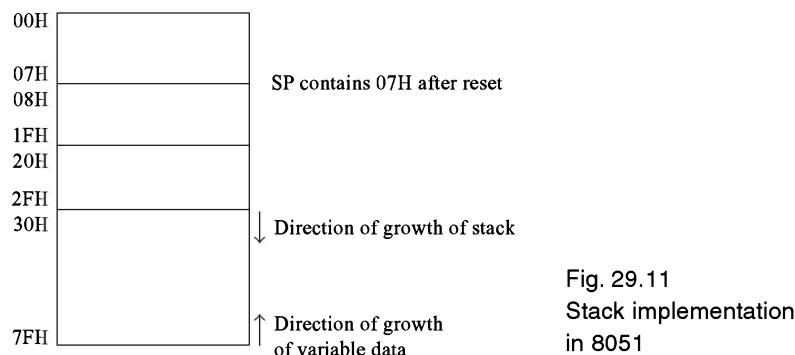

Fig. 29.11
**8051 stack:** The stack in an 8051-based system is always implemented in the internal data memory. As the internal data memory range is only 00H to 7FH, the SP register is only 8 bits wide, and is one of the SFRs of 8051 with address 81H. If the user desires to use all the four register banks, and uses locations 20H to 2FH as bit-addressable memory, then the stack can start from location 30H. In such a case the SP is initialized with 2FH as is shown in Fig. 29.11.